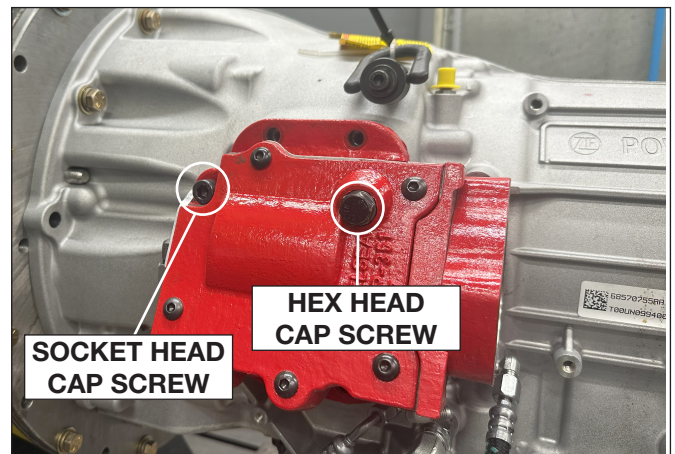

Figure 6
- e. Before placing the PTO in place, insert the hex head cap screw (M10-1.5 x 100 mm) and the socket head cap screw (M10-1.5 x 80 mm) into the housing. Both fasteners can be found in the provided stud kit. Now secure the PTO in place with the angled side up at the 12 O'clock position using the hex head and socket head cap screw. Using a criss-cross pattern, torque to 40-50 lb-ft [54-68 N-m]. (Required tools: 10 mm hex bit and socket wrench and a 17 mm open-end wrench) (**Fig. 6**).